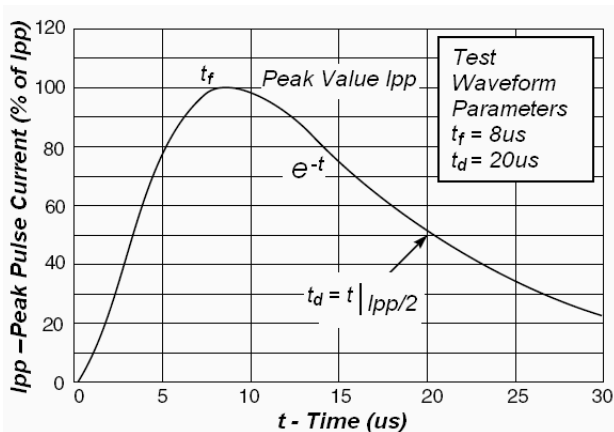

Fig 1. Pulse Waveform
** Surge current waveform per Figure 1.